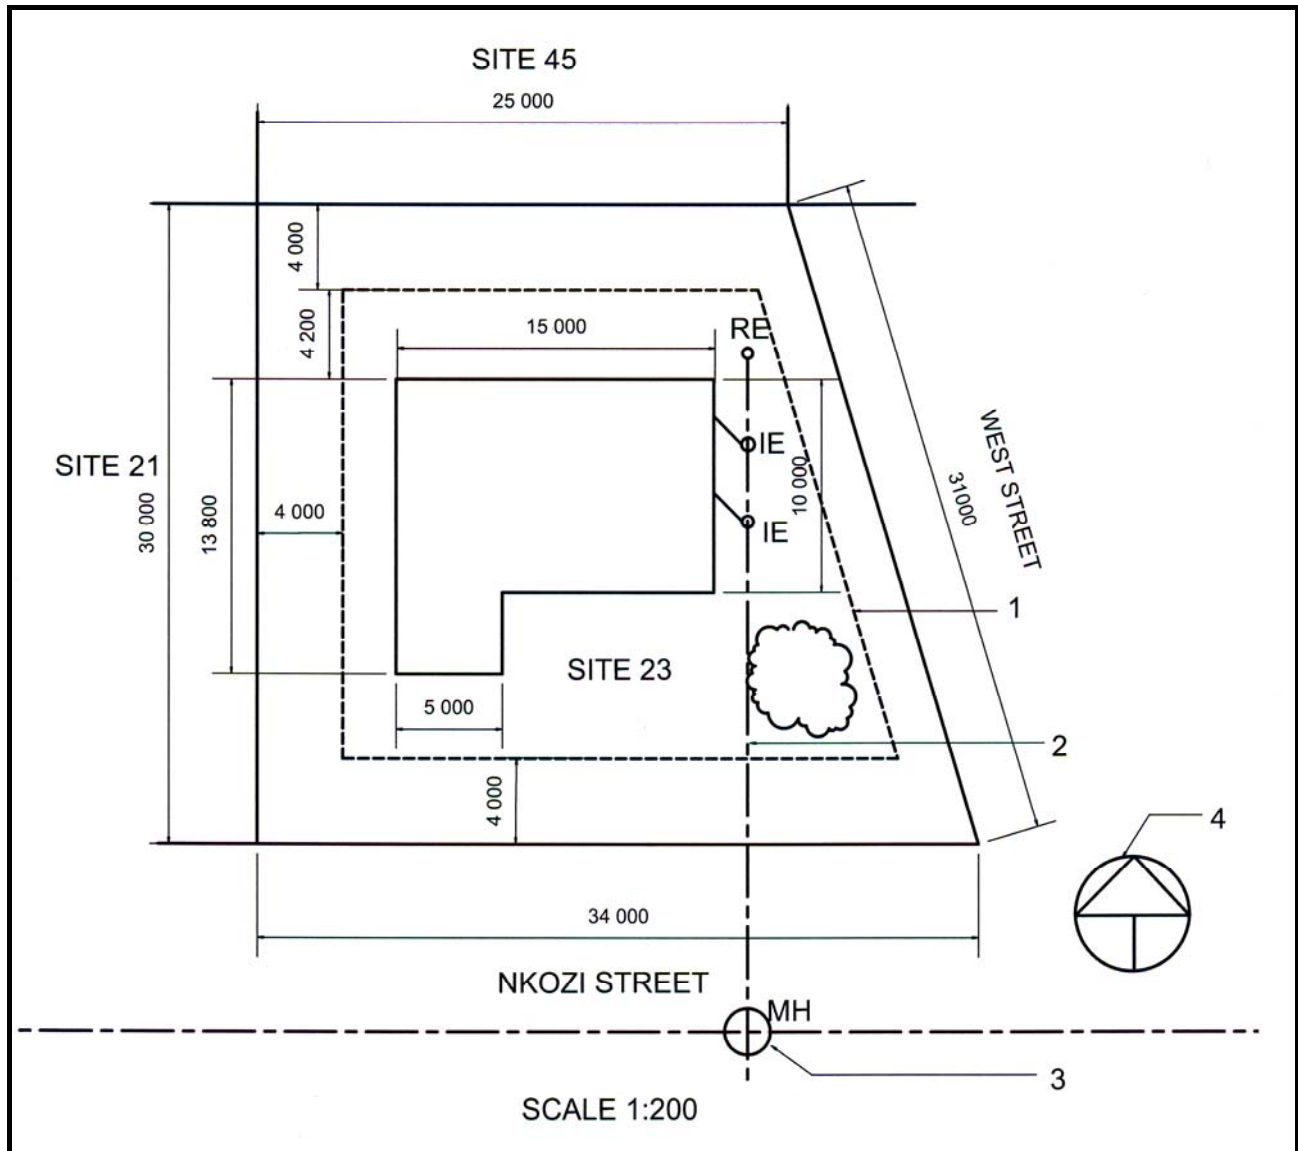

FIGURE 6.1
6.1 FIGURE 6.1 below illustrates the site plan of a dwelling. Analyse the drawing and complete the table on ANSWER SHEET 6.1.